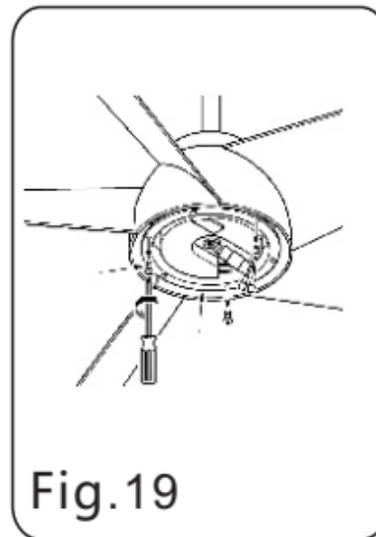

Fig.19
Step 1. Remove screws from the mounting ring. (Do not discard)(Fig.19)